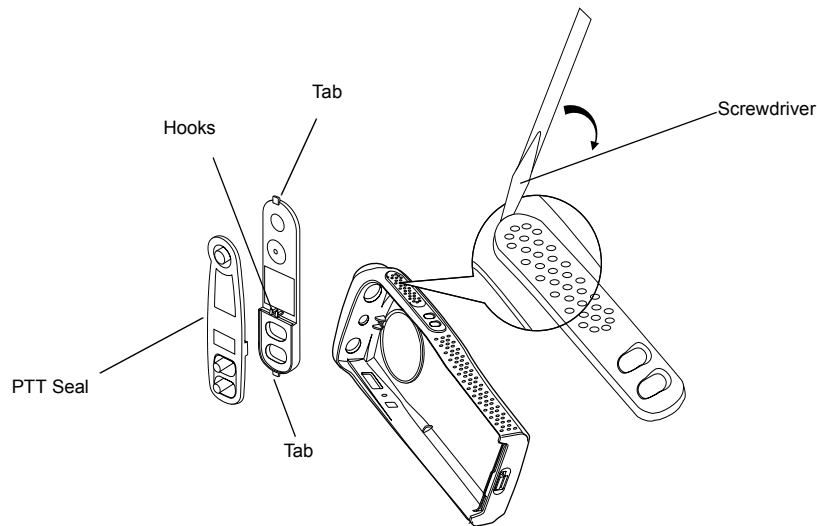

Figure 7-9. PTT Removal
1. If required, the PTT (Figure 7-9) can be disassembly using a small screwdriver, as follows: